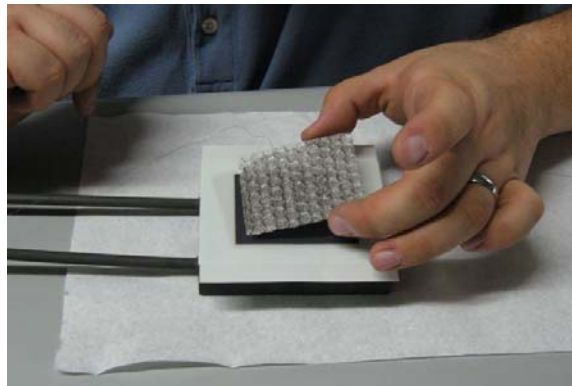

Figure 11
12. Place the Pt mesh onto the cathode active area and lightly press into place (Figure 11)